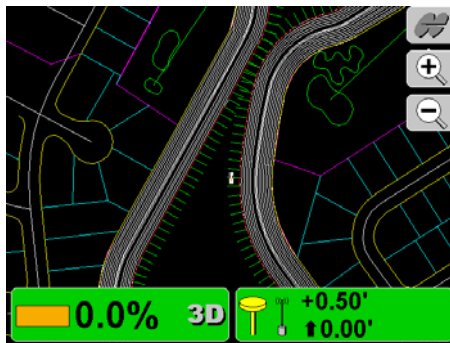

Figure 10-27. Linework Display – Main Screen
2. Press **Ok** to return to the main screen (Figure 10-27).